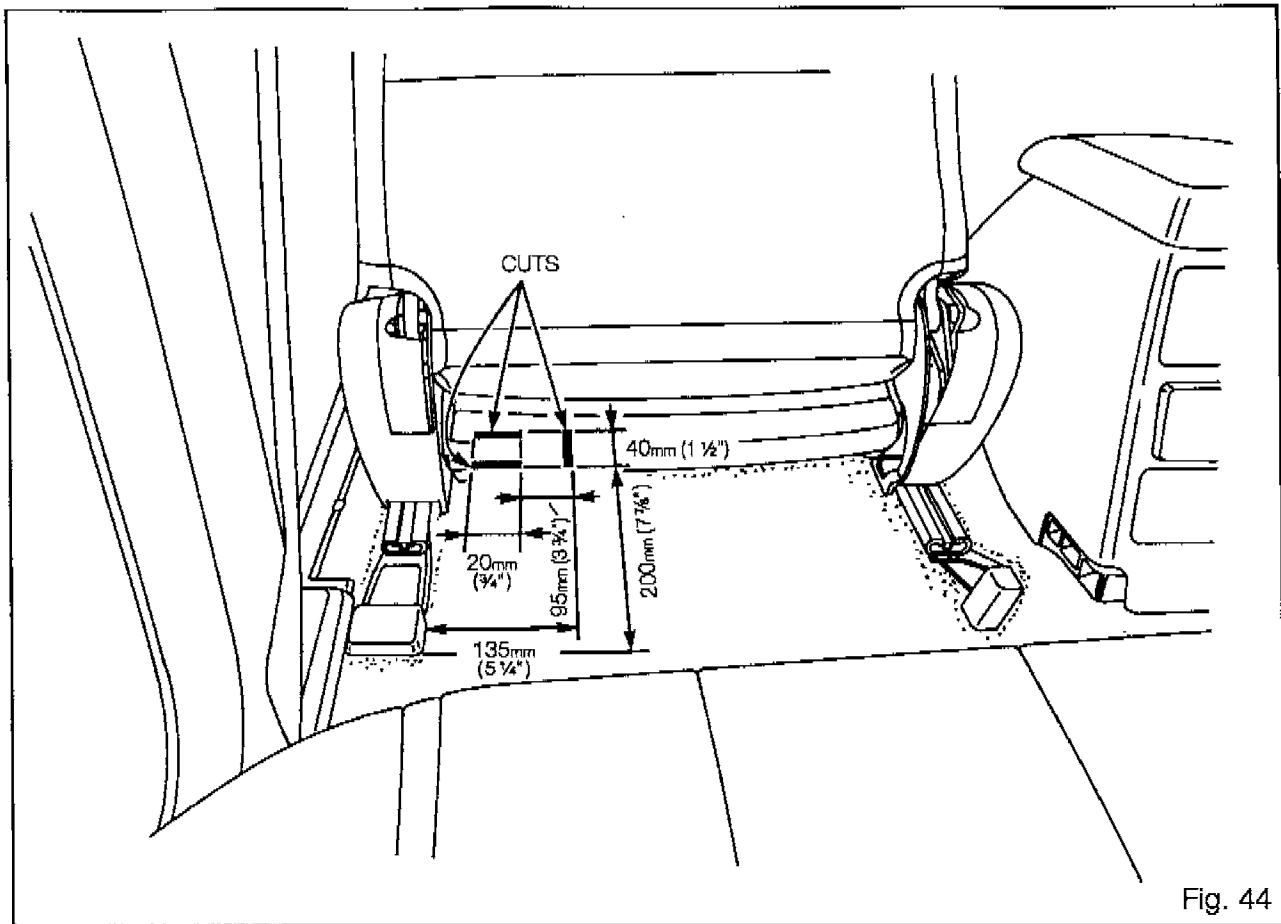

Fig. 44
- (1) Measure, mark, and cut the carpeting beneath the driver's seat as shown. Fig 44